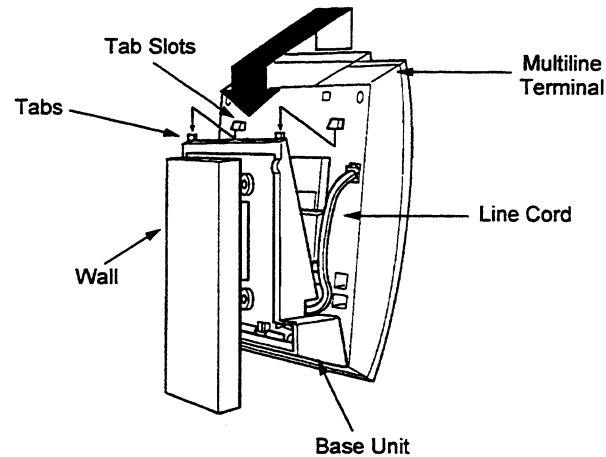

Figure 4-27 Attaching the Top Tabs of the Multiline Terminal to the Base Unit
6. Push up on the Multiline Terminal and lock the top tabs on the base unit into the tab slots on the Multiline Terminal. Figure 4-27 Attaching the Top Tabs of the Multiline Terminal to the Base Unit illustrates how the Multiline Terminal is attached.